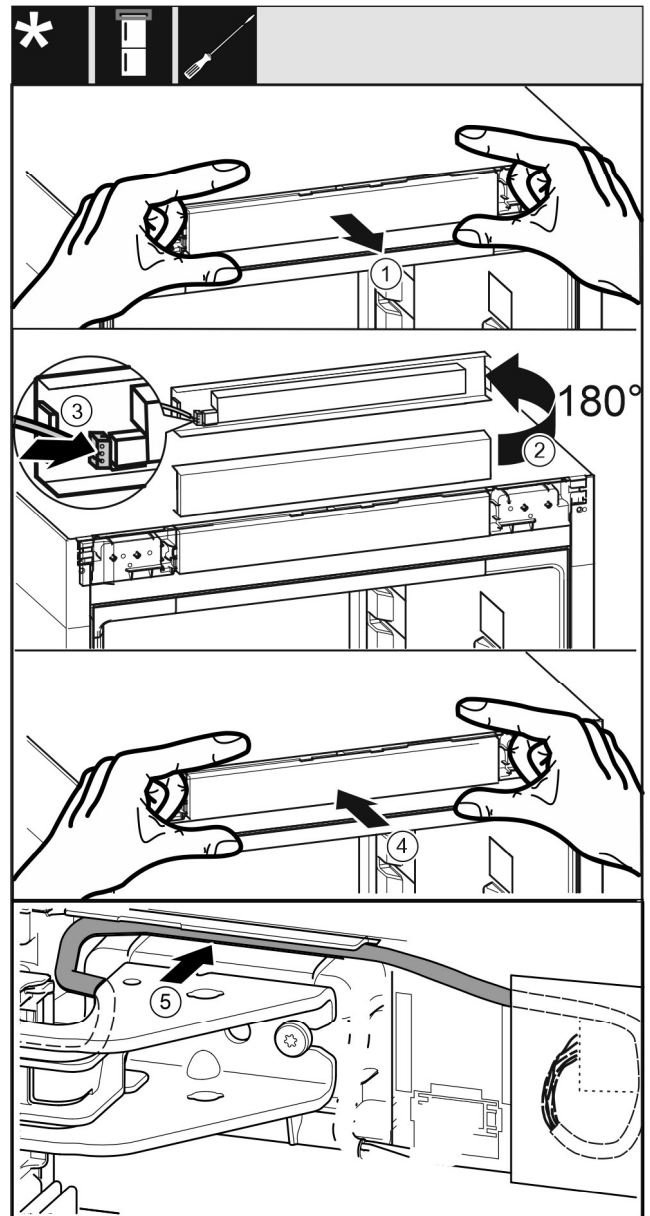

Fig. 43
- ▶ Carefully pull out the control plate Fig. 43 (1).
- ▶ Turn the control plate Fig. 43 (2) upward by 180°.
- ▶ Snap the plug Fig. 43 (3) into place on the control unit panel.
- ▶ Snap the control plate Fig. 43 (4) back onto the appliance.
- ▶ Carefully insert the cable Fig. 43 (5) into the guide above the top swap bearing block.